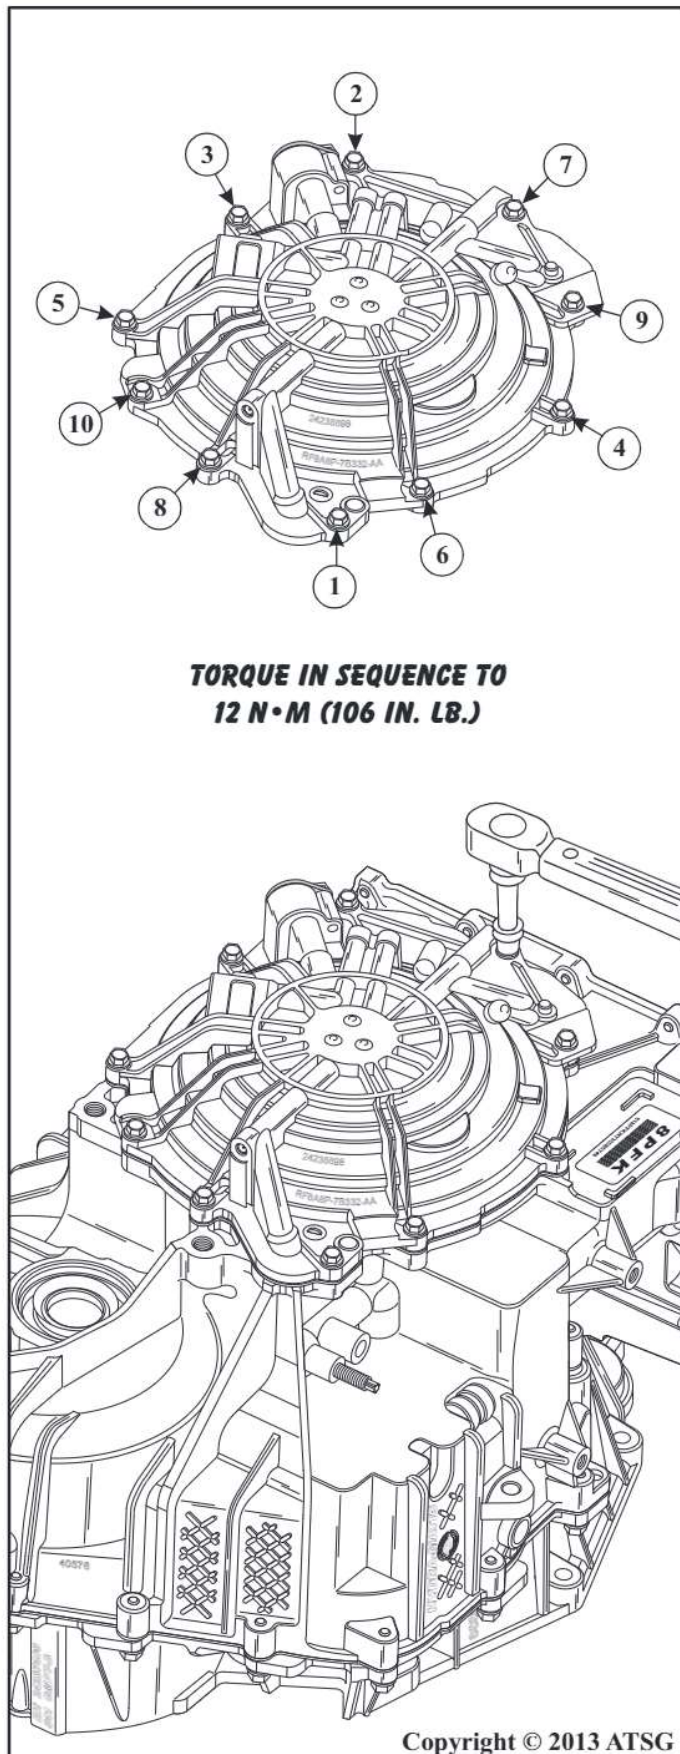

Figure 212
48. Torque the 10 rear case cover bolts in sequence to 12 N•m (106 in. lb.), as shown in Figure 212.